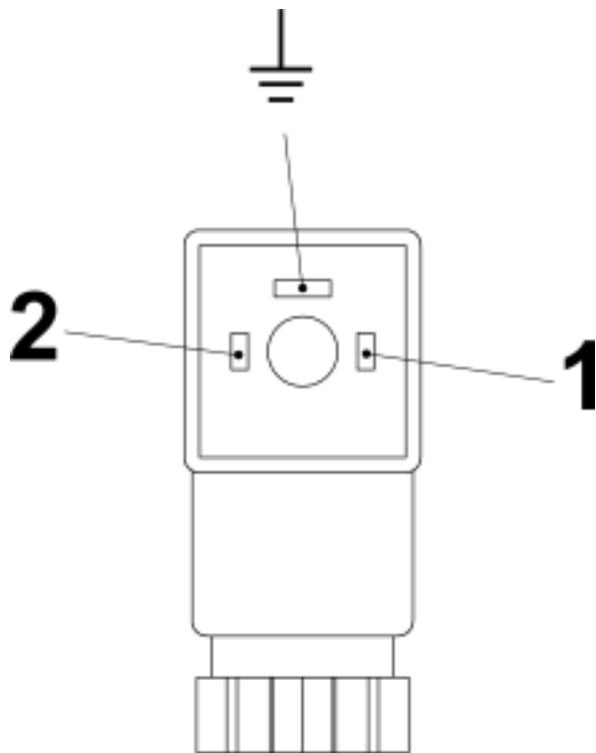
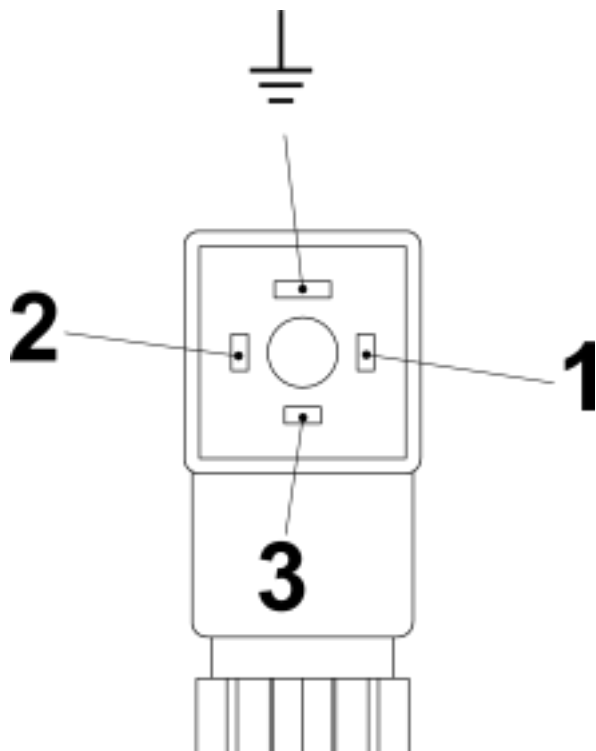

Fig. 25: Pin assignment, plug socket, Normally Open Contact (Form 15x50)
Fig. 26: Pin assignment, plug socket, Change-over contact (Form 15x50)
- 6.** ➤ Make the connections as shown in the connection diagram. (Fig. 25 and Fig. 26)